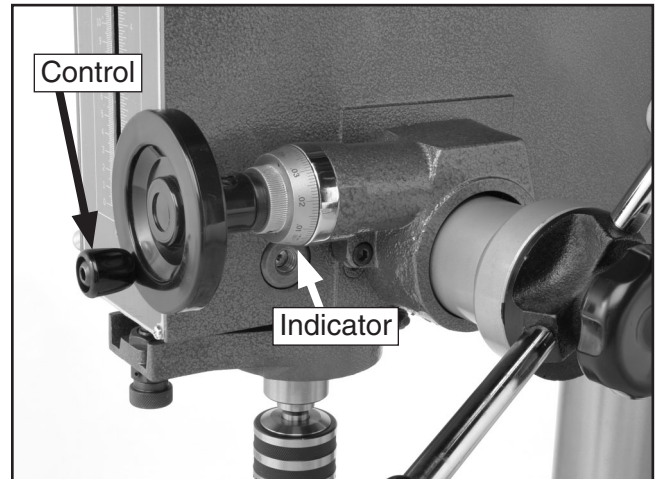

Figure 17. Fine downfeed control and indicator.
2. Use the fine downfeed control to hold the quill in place while you unlock the quill (see **Figure 17**).